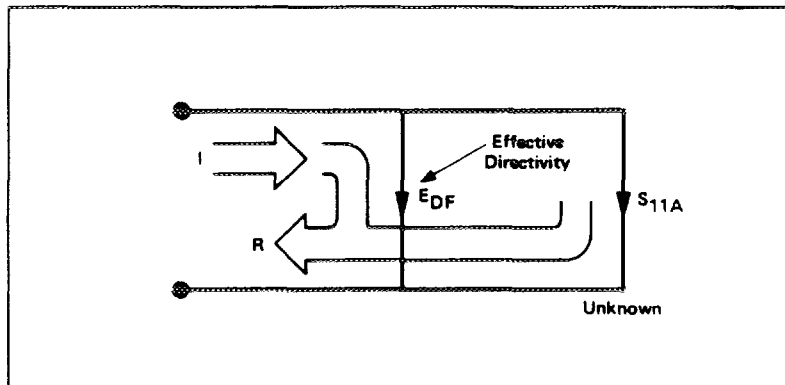

Figure 5-34. Effective Directivity EDF
However, all of the incident signal does not always reach the unknown (see Figure 5-34). Some of (I) may appear at the measurement system input due to leakage through the test set or other signal separation device. Also, some of (I) may be reflected by imperfect adapters between signal separation and the measurement plane. The vector sum of the leakage and miscellaneous reflections is directivity, EDF. Understandably, the measurement is distorted when the directivity signal combines vectorally with the actual reflected signal from the unknown, S_{11A}.